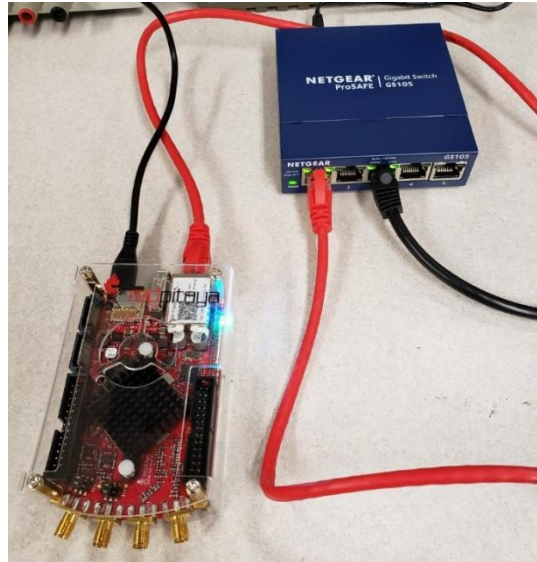

Figure 1: Set Up Between FPGA and Switch/Hub
4. Take the second Ethernet cable and plug it into the Ethernet port of the computer/laptop. Shown in Figure 1 below: